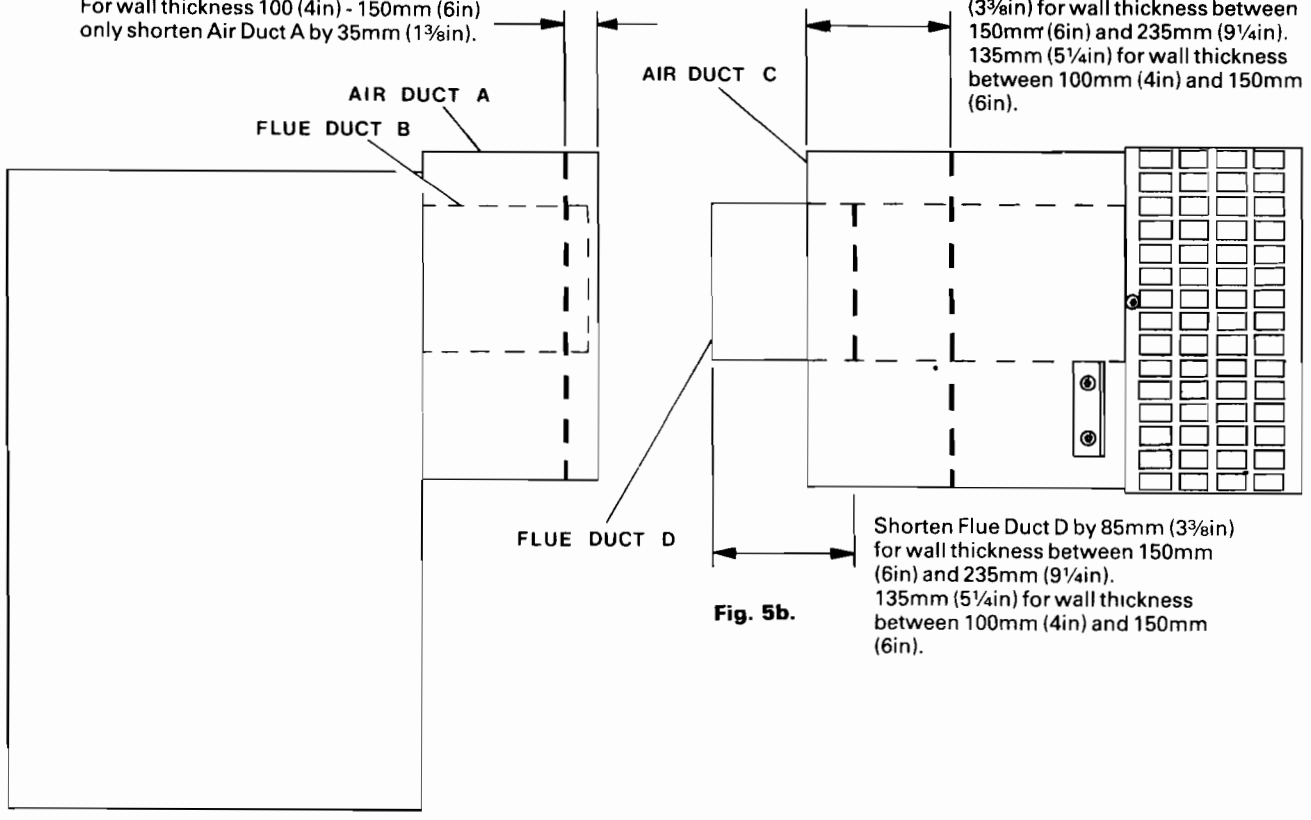

Fig. 5a.
6. **Fitting and adjusting the flue terminal ducts** (Figs. 5a, 5b, 6)
- (a) For wall thickness of between 100mm and 150mm (4in – 6in) Figs. 5a & 5b:-
- (ii) Shorten air duct (A) on the combustion box by 35mm using tin snips (Fig. 5a).
- (iii) Engage the terminal mesh assembly flue duct (D) ensure the rain trap to the top, on to the flue duct (B) on the back of the boiler (Figs. 5a & 5b). Push in and secure the flue trim and terminal mesh assembly with the four screws provided.